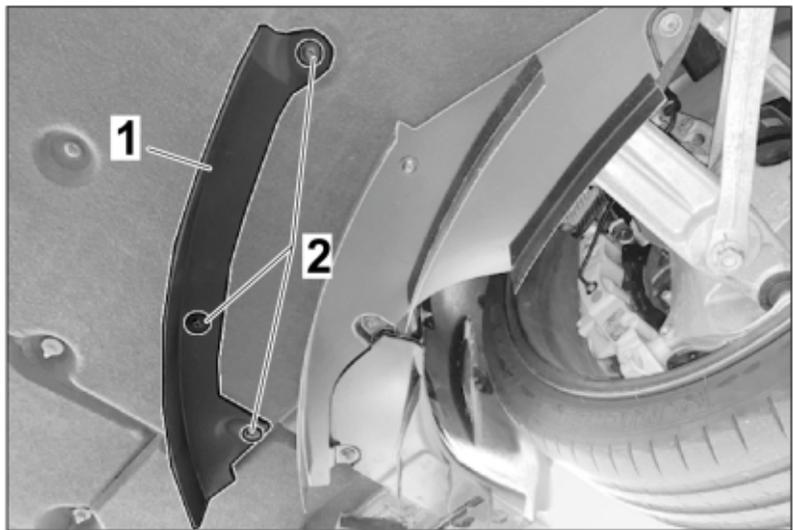

Figure 39
- 6.5.2 Fasten the air control element (inside) with ST 4.8 x 19 screws in the front/rear to the underbody cover (front) (⇒ Figure 39).